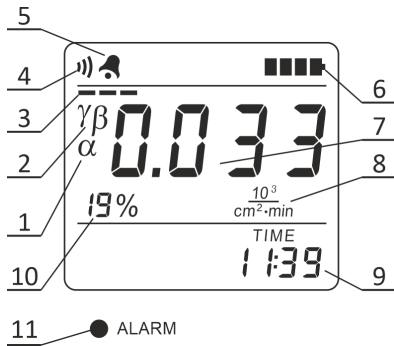

Figure 2.10 – LCD of the radiometer
2.3.3.8.8 When measuring characteristics of alpha radiation, the LCD of the radiometer displays the following information (Figure 2.10):
- estimated limit of statistical deviations (10) of the measurement result (7);
- " $\alpha$ " symbol (1) - an indication of the measured radiation type;
- " $\gamma\beta$ " symbol (1) - is displayed if the measurement takes place without consideration of gamma-beta radiation component;
- instantaneous value indicator (3);
- sound symbol (4) (if sound signaling of registered gamma quanta, beta and alpha particles is switched on);
- alarm clock symbol (5) (if the alarm clock is on);
- battery status symbol (6);
- measurement result (7);
- dimension of measurement result (8)  $10^3/(\text{cm}^2 \cdot \text{min})$ , cps or faded away, if the dimension is  $\text{Bq}/\text{cm}^2$ ;
- current time (9).
If surface activity measurement is carried out in  $\text{Bq}/\text{cm}^2$ , then "Act" characters are periodically displayed on the LCD of the radiometer and the dimension of the measurement result goes blank (8) (Figure 2.10).